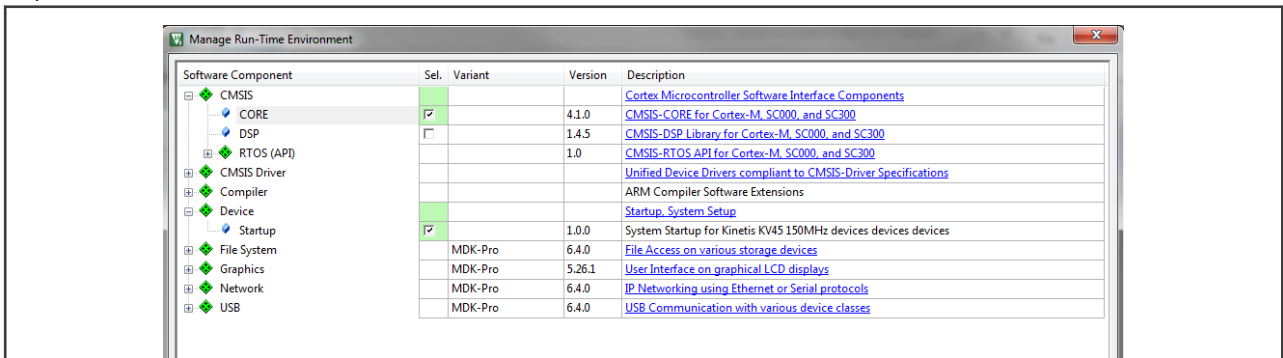

Figure 8. Manage Run-Time Environment dialog
8. In the next dialog, expand the Device node, and tick the box next to the Startup node. See Figure 8.